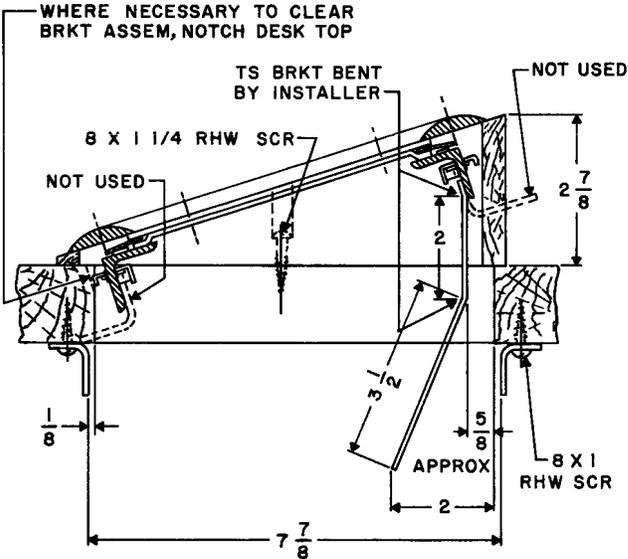

Fig. 16 — Installation of Framework for Tilting 101B Key Equipment
9.02 Fig. 16 shows the changes required to mount 101B key equipment on an angle.